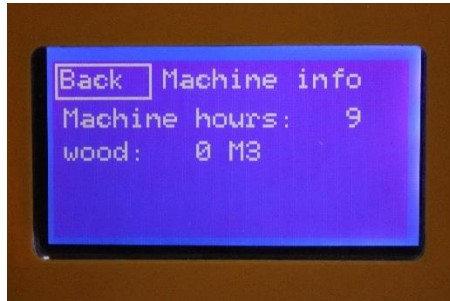

Figure 17. Machine specifications
- Machine specifications (Figure 17)